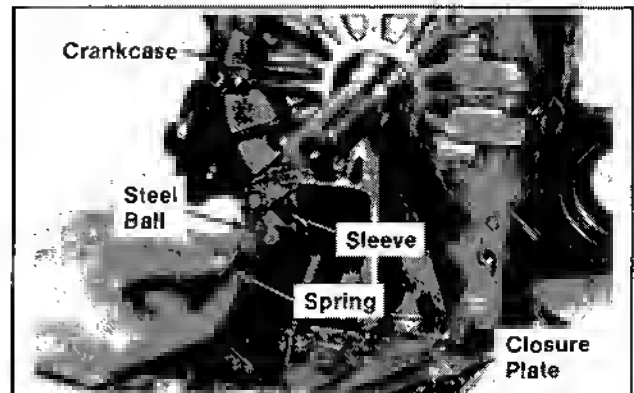

Figure 11-26. Installing Oil Pressure Relief Valve.
1. Install the oil pressure relief valve sleeve, steel ball, and spring. Refer to Figure 11-26.
Engines with Serial No. 1830500016 and higher have two alignment pins pressed into the crankcase (see Figure 11-26) to provide proper alignment of the closure plate.